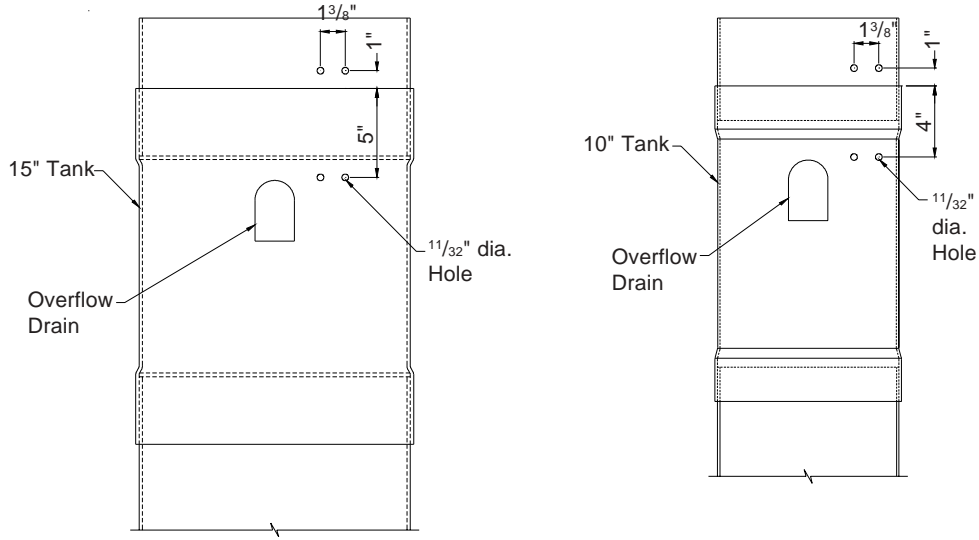

Figure 22C
- 9) On the cooling system tank kit drill (4) $1\frac{1}{32}$ " dia. holes as shown in **Figure 22C**. The holes should be located on the side of the tank kit that is away from the building, and so that the float assembly can swing freely and is not obstructed by anything.